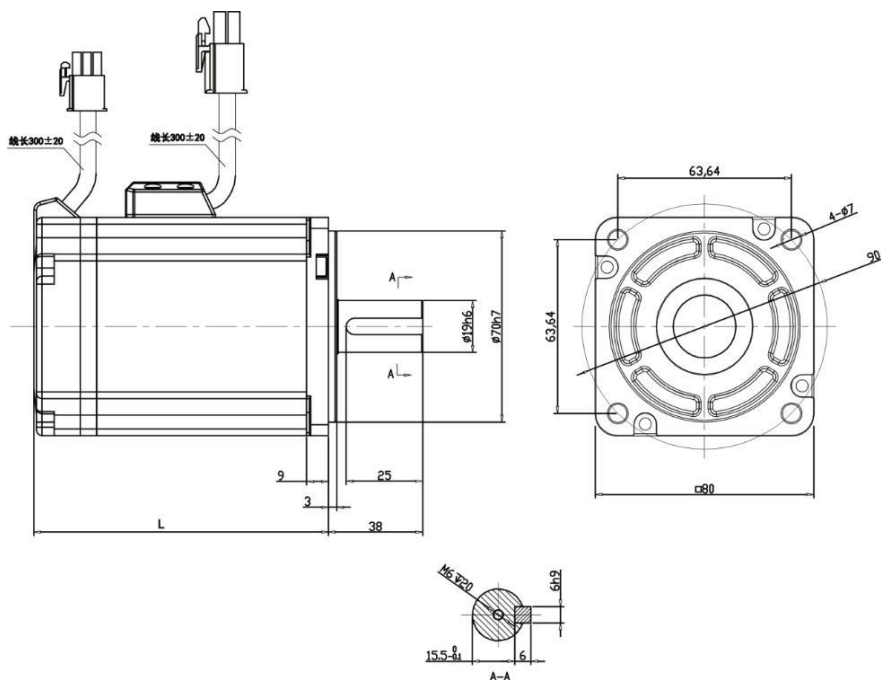

Figure 3.3 80 Motors and Table 3-2
- Installation dimensions of 80-frame motor (see Figure 3.3 and Table 3-2)